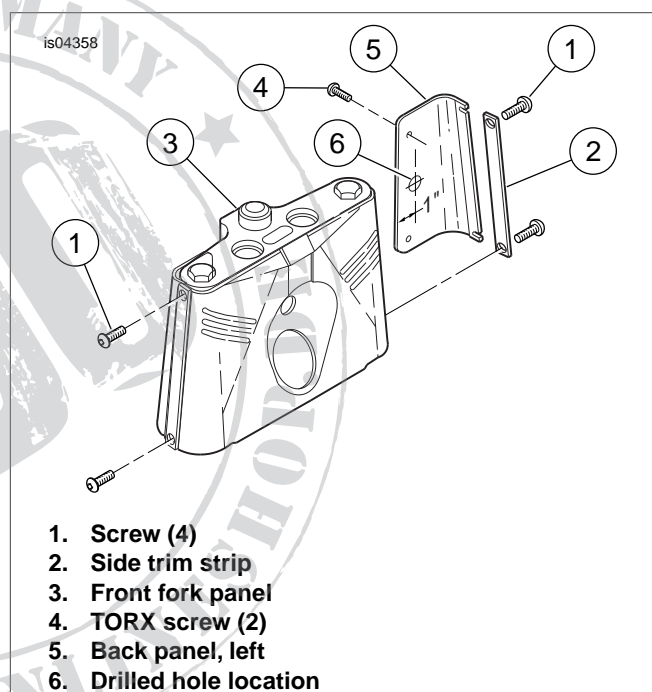
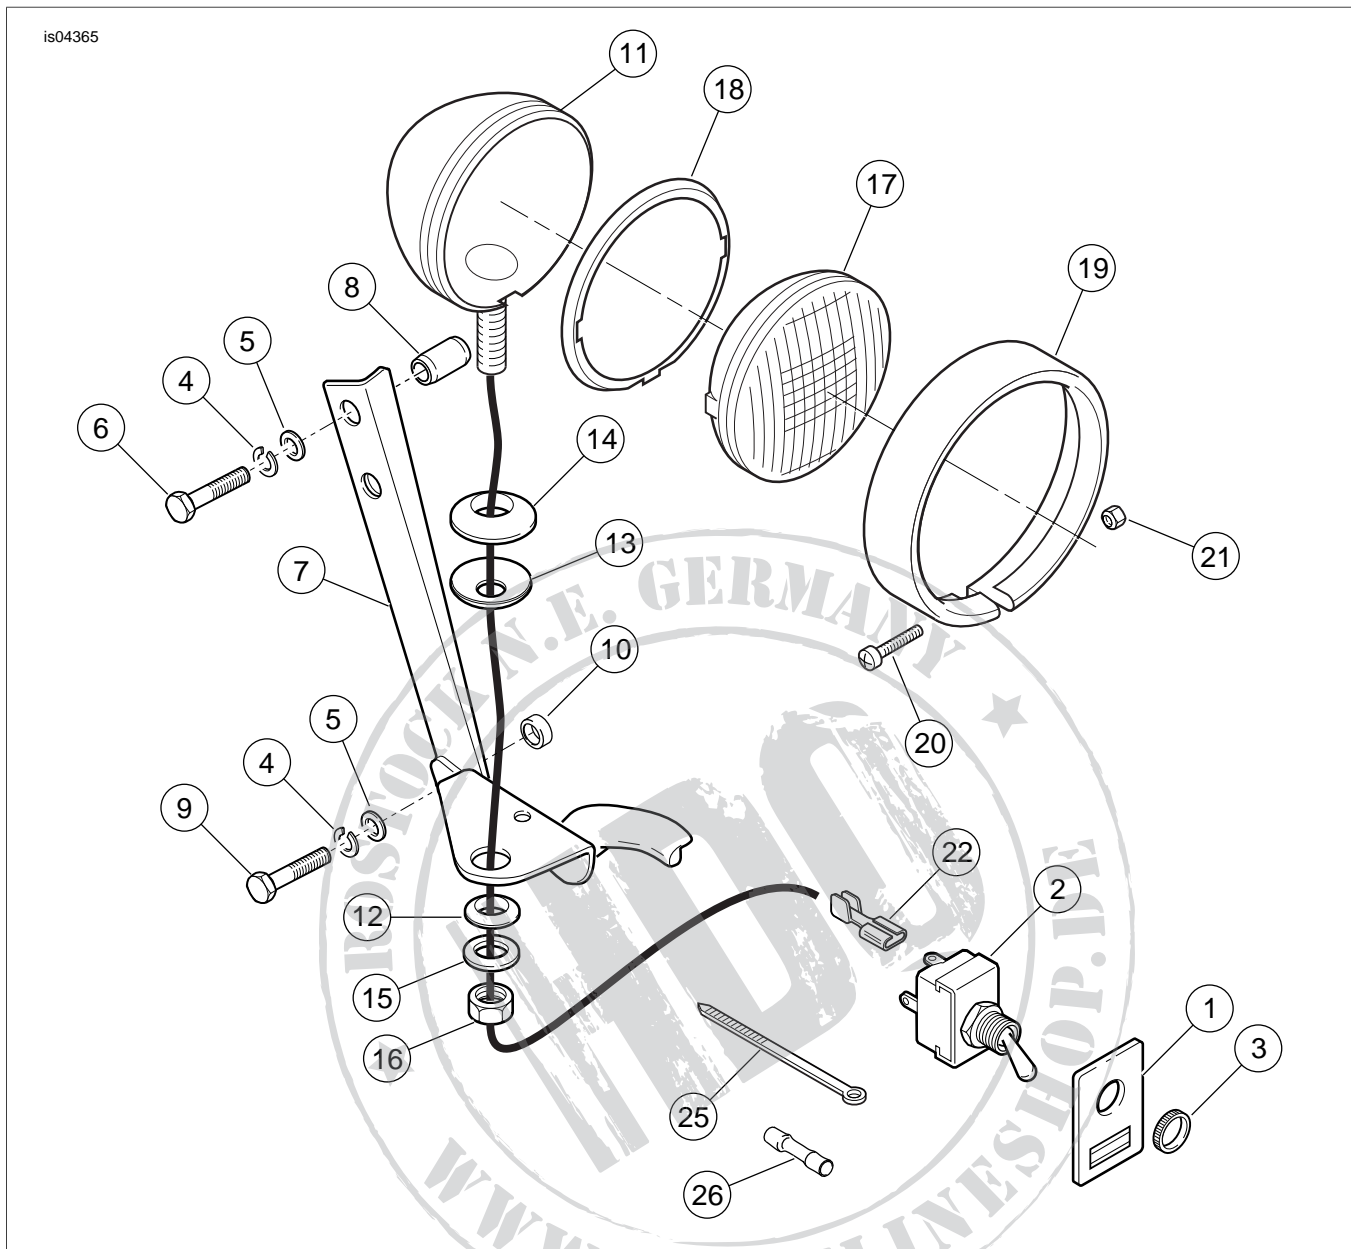

Figure 1. Toggle Switch Hole
Figure 5. Service Parts: Auxiliary Lamp Kit
See Figure 5 and Table 1.
1. See Figure 1. Remove and discard two screws (1) and side trim strips (2) from each side of the fork trim panel (3).
2. Unfasten TORX® screws (4) and remove back panel (5) from front fork trim panel.
4. Drill a small lead hole (6) at the location indicated. Enlarge the hole to 1/2 in. (13 mm) diameter.
5. See Figure 5. Attach adhesive label (1) around drilled hole (Figure 1, Item 6). Mount toggle switch (2) in hole using knurled nut (3). Set back panel aside for later wiring.
6. Place lockwasher (4) and washer (5) on two bolts (6). Insert bolts through upper holes in bracket (7) and through spacer (8). Thread into upper holes of fork bracket and through trim panel finger tight.
7. Place lockwasher (4) and washer (5) on two bolts (9). Insert bolts through lower holes in bracket (7) and through
- Attach auxiliary lamp housing (11) to bracket using hardware (12-16) in the sequence shown in Figure 5.
- See Figure 3. Combine wire ends from both auxiliary lamps (1) and terminate them with one of the spade terminals (Figure 5, Item 22).
- Attach connector (2) to the nearest terminal on the toggle switch (3).
- Auxiliary lamp (2)
- See Figure 5. Terminal one end of cable wire (23) with remaining single spade connector (22) and attach connector to remaining terminal on toggle switch (2). Slide conduit (24) over cable wire.
- See Figure 1. Attach left side panel (5) to front fork panel (3) under left side of auxiliary lamp bracket.
- Route wires so they are not pinched between the trim panel and fork bracket. Use cable straps (25) to secure wires to fork bracket and motorcycle frame.
- See Figure 5. Remove outer trim ring (21) and auxiliary lamp (17).
- Route end of toggle switch wire into headlamp housing (11) through grommet in rear of housing. Refer to HEAD-LAMP REMOVAL/INSTALLATION in Service Manual.
- See Figure 3. Connect toggle switch lead to the low beam (yellow) wire from headlamp socket with butt splice connector (Figure 5, Item 26) from kit.